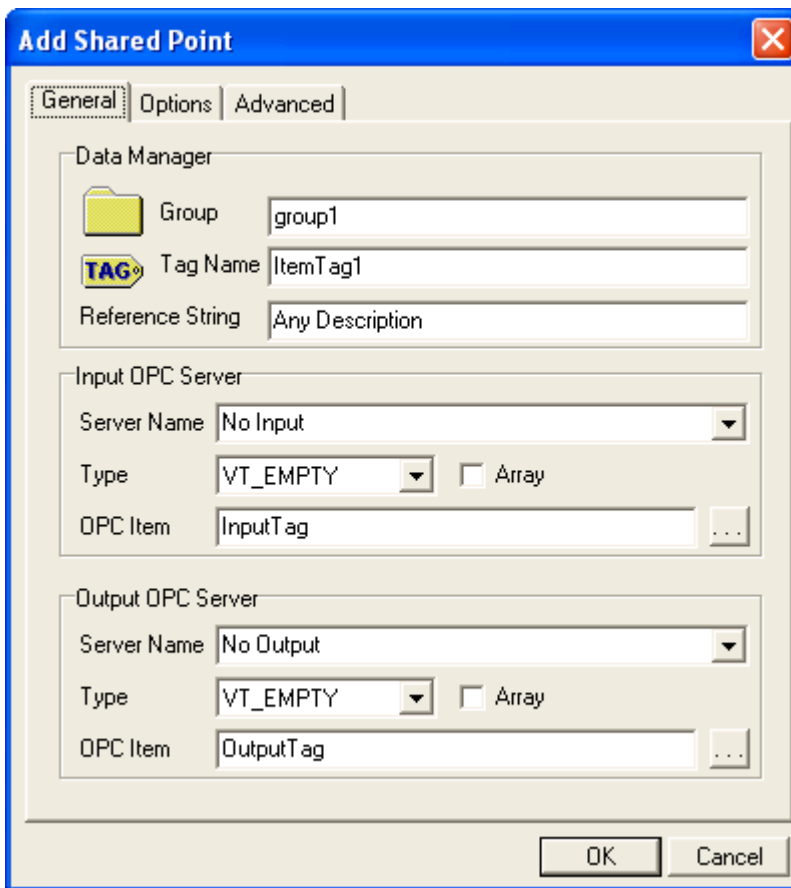

Figure 22 - Add Shared Point Window (General Tab)
Once a group has been created, it is possible to create shared points. Shared points are created in the **Add Shared Point** window (Figure 22) which consists of three tabs:
Figure 22 displays the **General** tab on the **Add Shared Point** window.
3. The **Add Shared Point** (Figure 22) window appears.